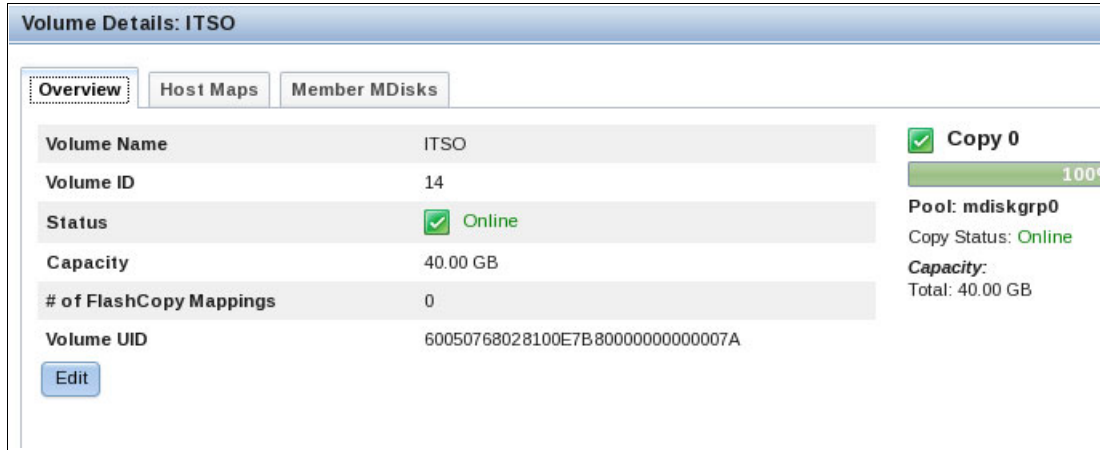

Figure 2-27 Displaying volume details
6. Right-click the volume to see the volume details, as shown in Figure 2-27.